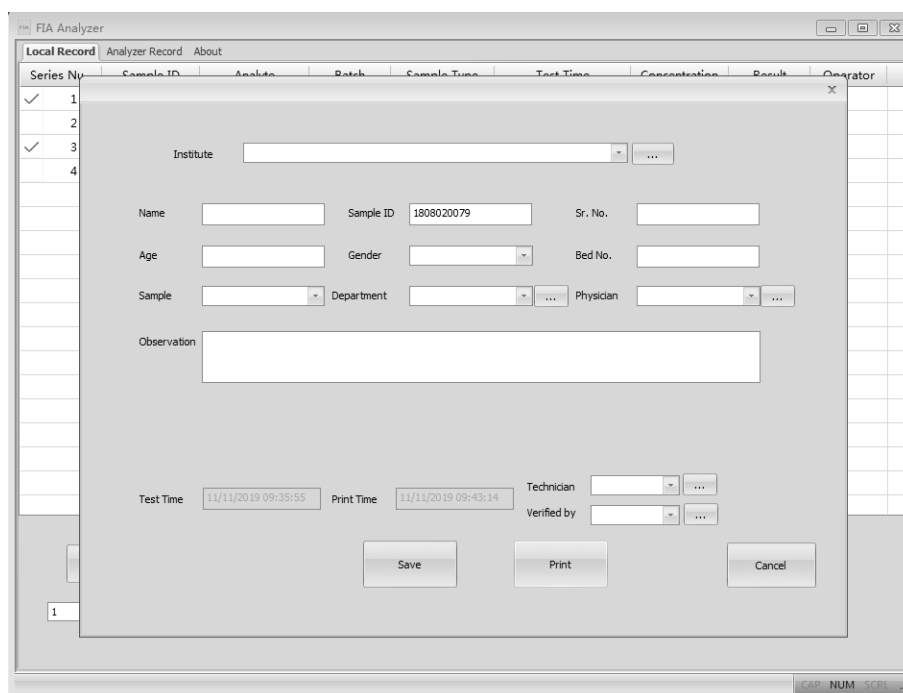

Fig 44
- **“Print”**: Select the items to be printed and click **“Print”** command, the screen would appear as shown as Fig 44. The information about the institute and the patient need to be filled.